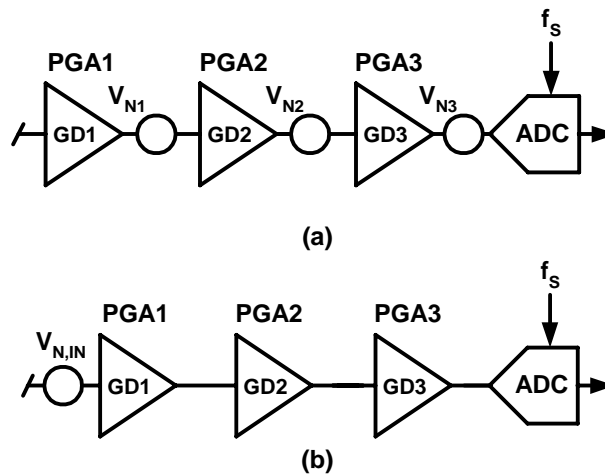
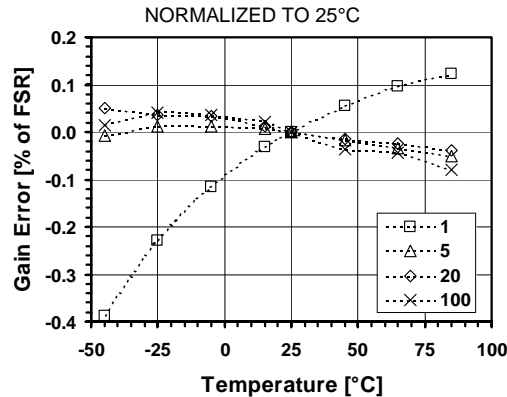

Figure 16-18. (a) Simple noise model for PGAs and ADC and (b) total input referred noise
Figure 16-19. Gain error vs. temperature for different PGA gains
- (1) Gain defined as overall PGA gain $GD_{TOT} = GD_1 \cdot GD_2 \cdot GD_3$. Maximum input voltage is given by: $V_{IN,MAX} = \pm(V_{REF}/2) \cdot (OSR/OSR+1)$.
- (2) Offset due to tolerance on $GDoff_2$ or $GDoff_3$ setting. For small intrinsic offset, use only ADC and PGA1.
- (3) Measured with block connected to inputs through AMUX block. Normalized input sampling frequency for input impedance is $f_s = 512kHz$. This figure must be multiplied by 2 for $f_s = 256kHz$, 4 for $f_s = 128kHz$. Input impedance is proportional to $1/f_s$.
- (4) Figure independent from PGA1 gain and sampling frequency f_s . See model of Figure 16-18(a). See equation Eq. 21 to calculate equivalent input noise.
- (5) Figure independent on PGA2 gain and sampling frequency f_s . See model of Figure 16-18(a). See equation Eq. 21 to calculate equivalent input noise.
- (6) Figure independent on PGA3 gain and sampling frequency f_s . See model of Figure 16-18(a) and equation Eq. 21 to calculate equivalent input noise.
- (7) Resolution is given by $n = 2 \cdot \log_2(OSR) + \log_2(N_{ELCONV})$. OSR can be set between 8 and 1024, in powers of 2. N_{ELCONV} can be set to 1, 2, 4 or 8.
- (8) If a ramp signal is applied to the input, all digital codes appear in the resulting ADC output data.
- (9) Gain error is defined as the amount of deviation between the ideal (theoretical) transfer function and the measured transfer function (with the offset error removed). (See Figure 16-19)
- (10) Offset error is defined as the output code error for a zero volt input (ideally, output code = 0). For ± 1 LSB offset, N_{ELCONV} must be ≥ 2 .
- (11) INL defined as the deviation of the DC transfer curve of each individual code from the best-fit straight line. This specification holds over the full scale.
- (12) DNL is defined as the difference (in LSB) between the ideal (1 LSB) and measured code transitions for successive codes.
- (13) Figures for Gains = 1 to 100. PSRR is defined as the amount of change in the ADC output value as the power supply voltage changes.
- (14) Conversion time is given by: $T_{CONV} = (N_{ELCONV} \cdot (OSR + 1) + 1) / f_s$. OSR can be set between 8 and 1024, in powers of 2. N_{ELCONV} can be set to 1, 2, 4 or 8.
- (15) PGAs are reset after each writing operation to registers **RegAcCfg1-5**. The ADC must be started after a PGA or inputs common-mode stabilisation delay. This is done by writing bit *Start* several cycles after PGA settings modification or channel switching. Delay between PGA start or input channel switching and ADC start should be equivalent to OSR (between 8 and 1024) number of cycles. This delay does not apply to conversions made without the PGAs.
- (16) Nominal (maximum) bias currents in PGAs and ADC, i.e. **IB_AMP_PGA[1:0] = '11'** and **IB_AMP_ADC[1:0] = '11'**.
- (17) Bias currents in PGAs and ADC set to 3/4 of nominal values, i.e. **IB_AMP_PGA[1:0] = '10'**, **IB_AMP_ADC[1:0] = '10'**.
- (18) Bias currents in PGAs and ADC set to 1/2 of nominal values, i.e. **IB_AMP_PGA[1:0] = '01'**, **IB_AMP_ADC[1:0] = '01'**.
- (19) Bias currents in PGAs and ADC set to 1/4 of nominal values, i.e. **IB_AMP_PGA[1:0] = '00'**, **IB_AMP_ADC[1:0] = '00'**.
The simple noise model of Figure 16-18(a) is used to estimate the equivalent input referred rms noise $V_{N,IN}$ of the acquisition chain in the model of Figure 16-18(b). This is given by the relationship:
Note: see noise model of Figure 16-18 and equation Eq. 21.
Figure 16-19 shows gain error drift vs. temperature for different PGA gains. The curves are expressed in % of Full-Scale Range (FSR) normalized to 25°C.